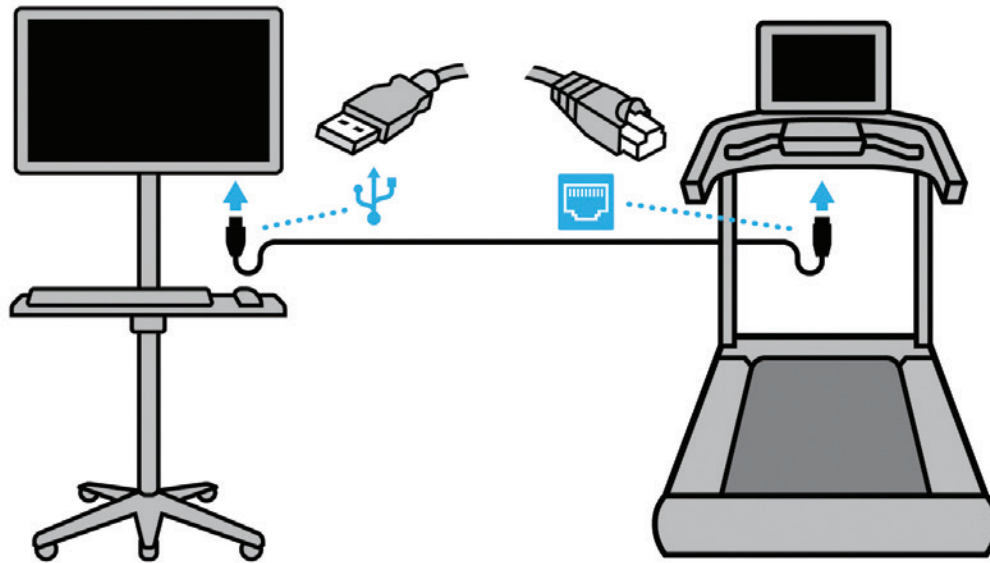

Figure 6-11: PC to Treadmill Connection
2. Connect the provided USB cable into the PC and treadmill. See Figure 6-11.